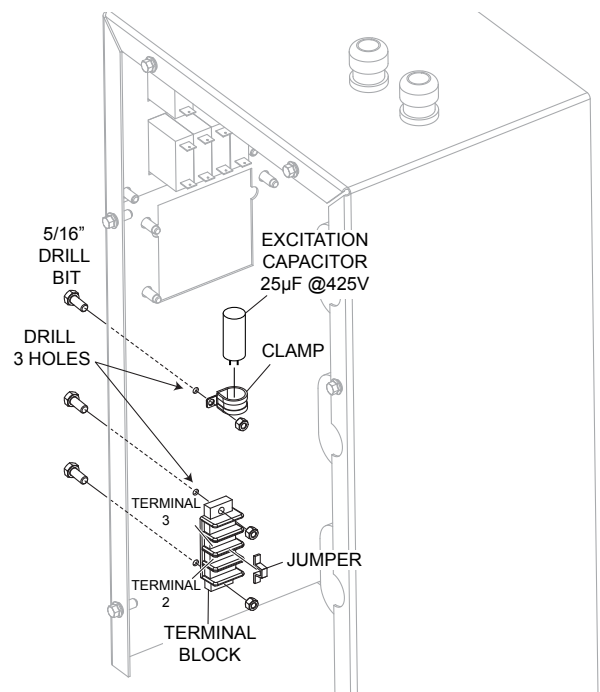

Figure 23. Mount New Electrical Hardware
1. Drill 3 holes (use 5/16" drill bits) in the ballast box for mounting of new excitation capacitor (25 μ F @425V) and terminal block. See Figure 23. Install capacitor with clamp and terminal block with jumper between terminals 2 and 3.